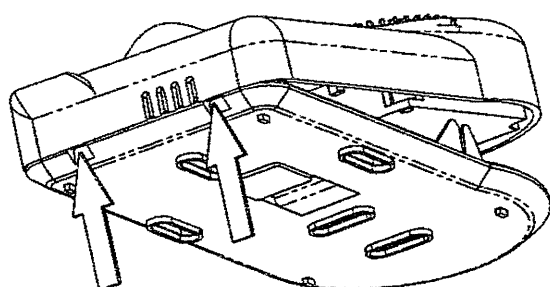

FIG. 6
- ⑨ Inserire la calotta, inclinata di 45°, verso destra, vedi fig. 6, affinché i dentini, indicati dalle frecce, si incastrano perfettamente alla base.
Couple the thermostat, inclined by 45° on the right side as in fig. 6, so that the plastic teeth, shown with the arrows, fit in the relevant slots in the base.